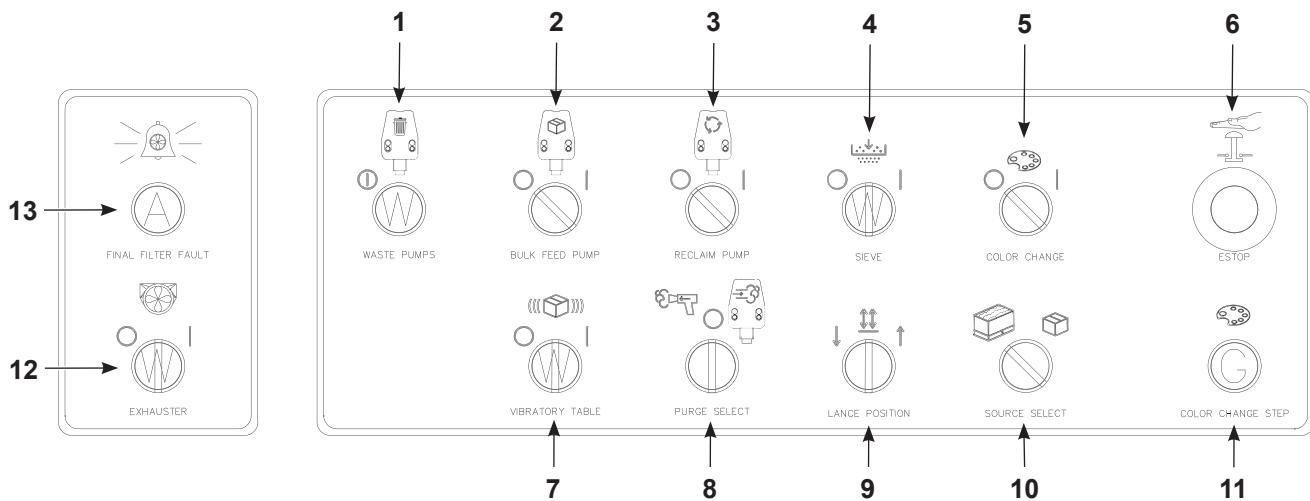

Figure 5-1 Feed Center Controls
Refer to Figure 5-1 for the feed center operator controls, and *Setup* section for the PLC function settings.
See Figure 5-1. Powder is supplied to the feed center by HDLV reclaim and virgin powder transfer pumps. The powder is screened before flowing into the feed hopper. The sieve is turned on and off with the Sieve Control switch (4).
See Figure 5-1. The operation of the Reclaim and Virgin powder transfer pumps are controlled by separate selector switches (2, 3). Turning the switches to ON (I) enables the transfer pumps.
See Figure 5-1. Turn the Purge Control selector switch (8) to the Pump Purge position while the pump is on. Purge air is applied to the pump as long as the switch is in the purge position.
See Figure 5-1. When the Powder Source selector switch (10) is set to Hopper, the lance is moved down into the hopper until the hopper proximity sensor on the lift cylinder is activated and stops the lance above the fluidizing plate. When the level of powder falls below the level sensor, a delay timer (field-adjustable) is started.
Refer to Figure 5-1 for the feed center operator controls. A color change sequence is started by turning the Color Change Enable selector to ON. The sequence is finished or aborted by turning the selector to OFF.